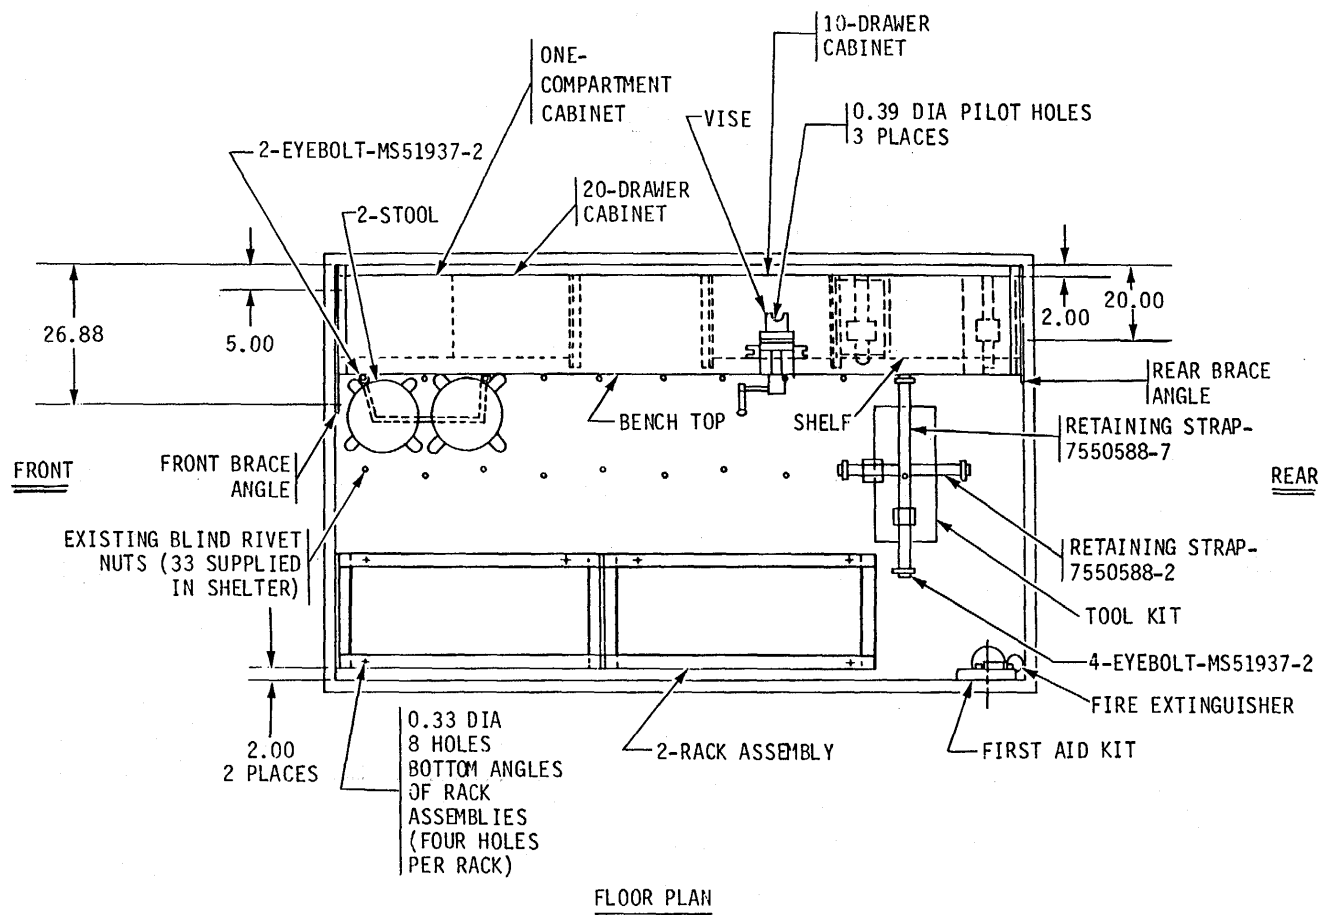
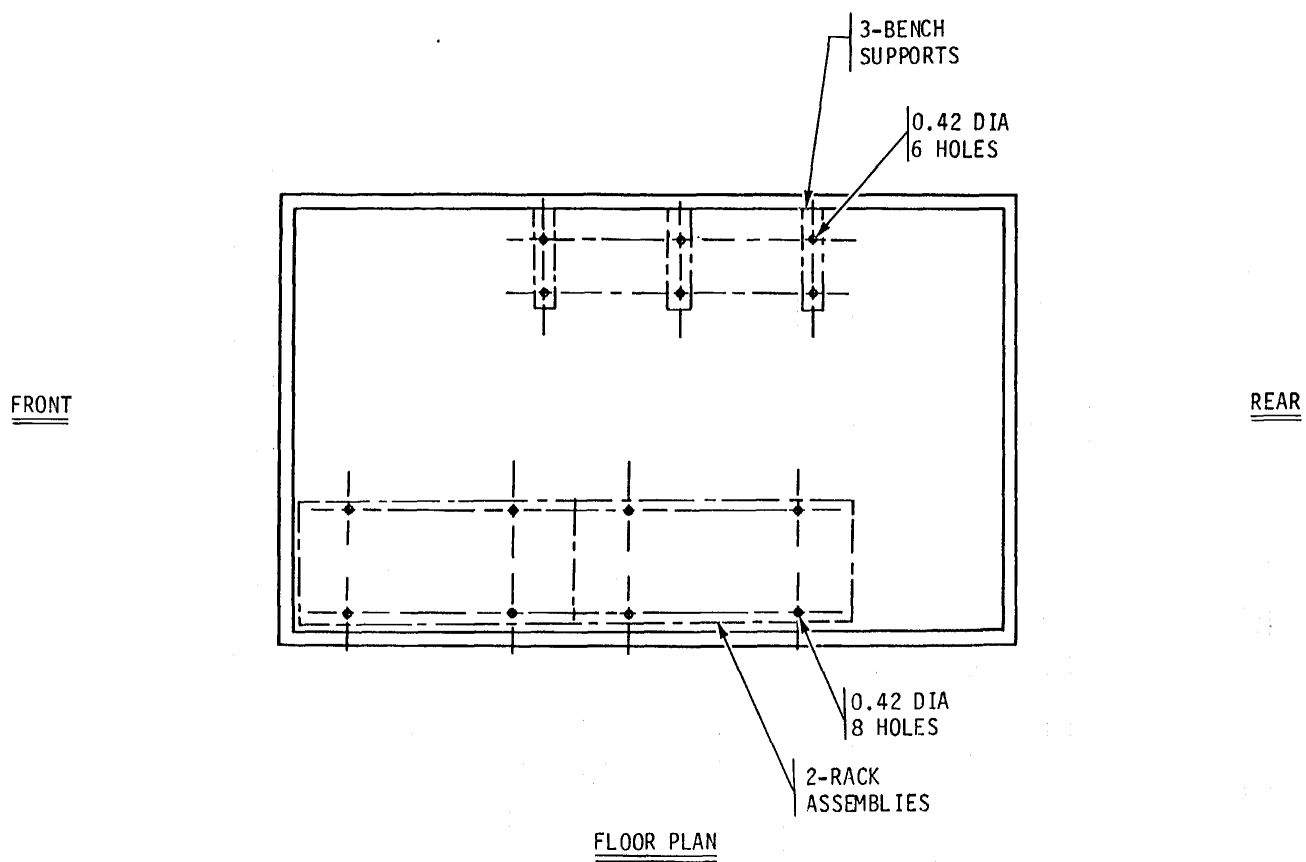
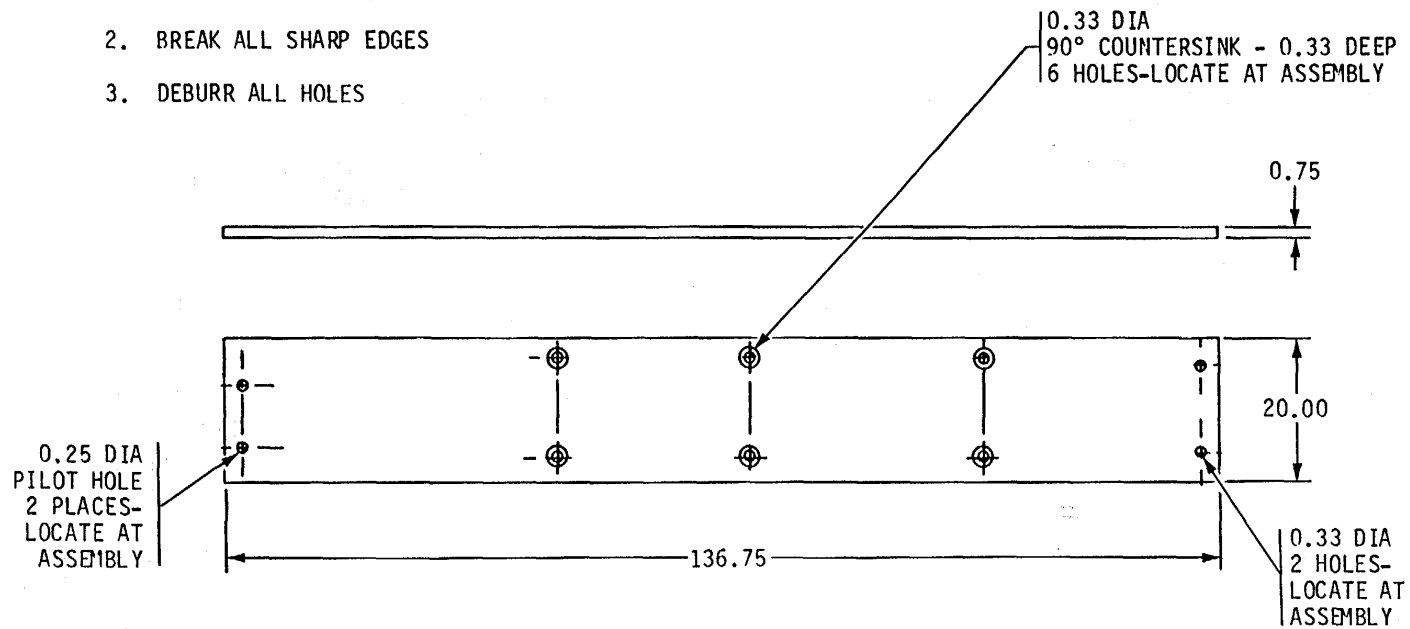
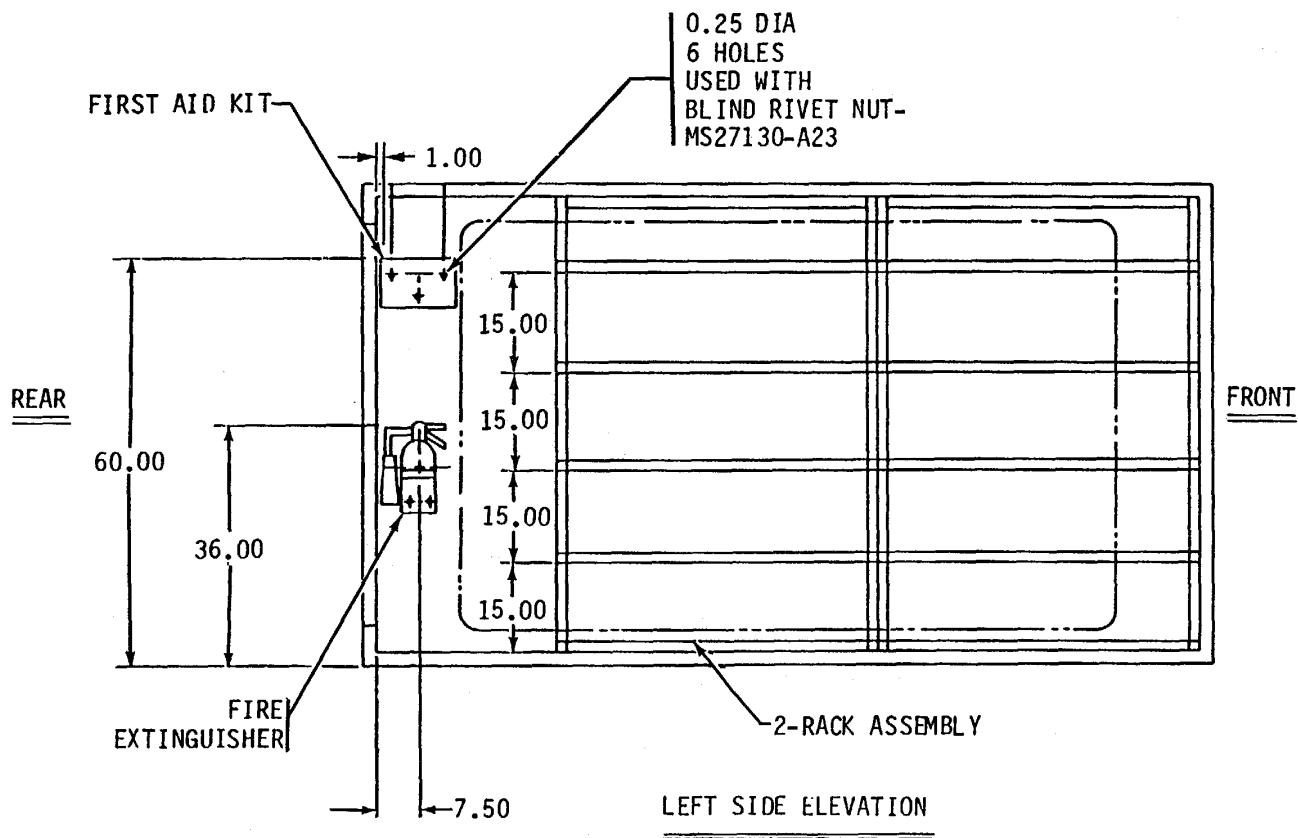

Figure 2. Components to be Mounted, Floor Plan, Unit 1, 280.
Figure 3. Dimensions for Blind Rivet Nut Holes, Floor Plan, Unit 1, 280.
Figure 8. Dimensions for Bench Top, Unit 1, 280.
Figure 9. Components to be Mounted, Unit 1, 280, Left Side Elevation.
**Positioned floor mounted equipment as shown in figures 2, 3, 4, 5, and 9. Use the equipment mounting holes as a template for location of blind rivet nuts in accordance with figures 3, 4, and 5. Position wall mounted first aid kit and fire extinguisher as shown in figure 9, using the equipment mounting holes as a template for location of blind rivet nuts.**
(1) Mark and drill six 0.25-in.
diameter holes in left wall in accordance with figure 9. Install six #10 blind rivet nuts (MS27130-A23).
(2) Mark and drill twenty 0.42-in. diameter holes in floor and walls in accordance with figures 3 and 4. Install twenty 5/16-in. blind rivet nuts (MS27130-A45).
(1) Fabricate eight angle up-right members,, twenty angle cross members, twenty angle rear members, and twelve angle front members in accordance with figure 11. Fabricate eight rack shelves in accordance with figure 12. Assemble two rack assemblies without rack shelves on left side in accordance with figures 2, 9, and 10, using eighty-eight 5/16- x 5/8-in. pan head machine screws (MS35206-295), eighty-eight 5/16-in. lockwashers (MS35338-45), and eighty-eight 5/16 in. hex nuts (MS51967-5).
(2) Mark and drill eight 0.33-in. diameter clearance holes (four for each rack assembly) in angle front and rear members in accordance with
figure 2 Position over installed blind rivet nuts in accordance with figure 3. Secure rack assemblies to floor using eight 5/16x 1-in. hex head capscrews (MS90725-34), eight 5/16-in. flat washers (AN970-5), and eight 5/16-in lockwashers (MS35338-45). Install eight rack shelves in racks, starting with rack angles 15 inches above the floor in accordance with figure 9.
(3) Position mounting bracket of fire extinguisher (4210-00-555-8837) on left wall in accordance with figure 9. Mark and drill three 0.22-in. diameter holes in mounting bracket. Position over installed blind rivet nuts and secure mounting bracket to wall using three #10 x 1/2-in. countersunk head machine screws (MS35190-271). Install fire extinguisher in mounting bracket (See also fig. 2.)
(4) Before installing first aid kit (6545-00-922-1200), remove contents and drill three 0.22-in. diameter holes in back of case. Position case in location shown in figure 9, over installed blind rivet nuts. Secure case to wall using three #10 x 1/2-in countersunk head machine screws (MS35190271). Install contents of first aid kit. (See also fig. 2.)
(6) Position one-compartment cabinet (7125-00-991-2857) and 20-drawer cabinet (7125-00-999-1123) on front right side of shelter in accordance with figures 2, 4, and 5
(9) Position 10-drawer cabinet (7125-00-999-1122) on right side of shelter in accordance with figures 2 and 4. Repeat steps 7 and 8 with 10-drawer cabinet using left-hand bench support, two 5/16x 7/8-in. pan head machine screws (MS35206-297), four 5/16-in. lockwashers (MIS35338-45), two 5/16-in. hex nuts (MS51967-5), and two 5/16x 1-in. hex head capscrews (MS90725-34)
(11) Using right-hand bench support as template, mark and drill two 0.33-in. diameter holes in side of 10drawer cabinet
(12) Position shelf between rear wall and 10-drawer cabinet over installed blind rivet nuts in accordance with figures 2 and 4. Secure shelf to wall using shelf support (fig. 5), two 5/16- x 7/8-in. pan head
(13) Fabricate a bench top in accordance with figure 8. Position bench top on the top of the installed cabinets and bench supports in accordance with figures 2, 4, and 5. Using the bench supports as templates, mark and drill six 0.33-in. diameter holes through the bench top. Counterbore 90° by 0.33-in. deep on the top surface of the bench top. Secure bench top to bench supports, using six 5/16x 1-1/2-in. countersunk head machine screws (MS35190-308), six 5/16-in. lockwashers (MS35338-45), and six 5/16-in. hex nuts (MS51967-5)
(16) Position vise (3460-00-2773504) on bench top in accordance with figures 2 and 4. Using base of vise as template, mark and drill three 0.39-in diameter pilot holes through bench top. Secure vise to bench top, using three 1/2x 1-3/4-in. hex head lag bolts (MS16992-580), three 1/2-in. flat washers (AN970-8), and three 1/2-in. lockwashers (MS35338-48)
(17) Secure two 5/16x 2-31/32in. shoulder eyebolts (MS51937-2) and two 5/16-in. hex nuts (MS51967-5) to existing blind rivet nuts in floor. Position two stools (7110-00-634-8596) in accordance with figures 2 and 4 and secure to floor, using 110-in. retaining strap (7550588-10)
(20) Secure four 5/16x 2-31/32in. shoulder eyebolts (MS51937-2) and four 5/16-in. hex nuts (MS51967-5) to existing blind rivet nuts in rear of floor. Secure tool kit (5180-00-6995273) to floor, using 60-in. retaining strap (7550588-2) and 92-in. retaining strap (7550588-7) in accordance with figure 2